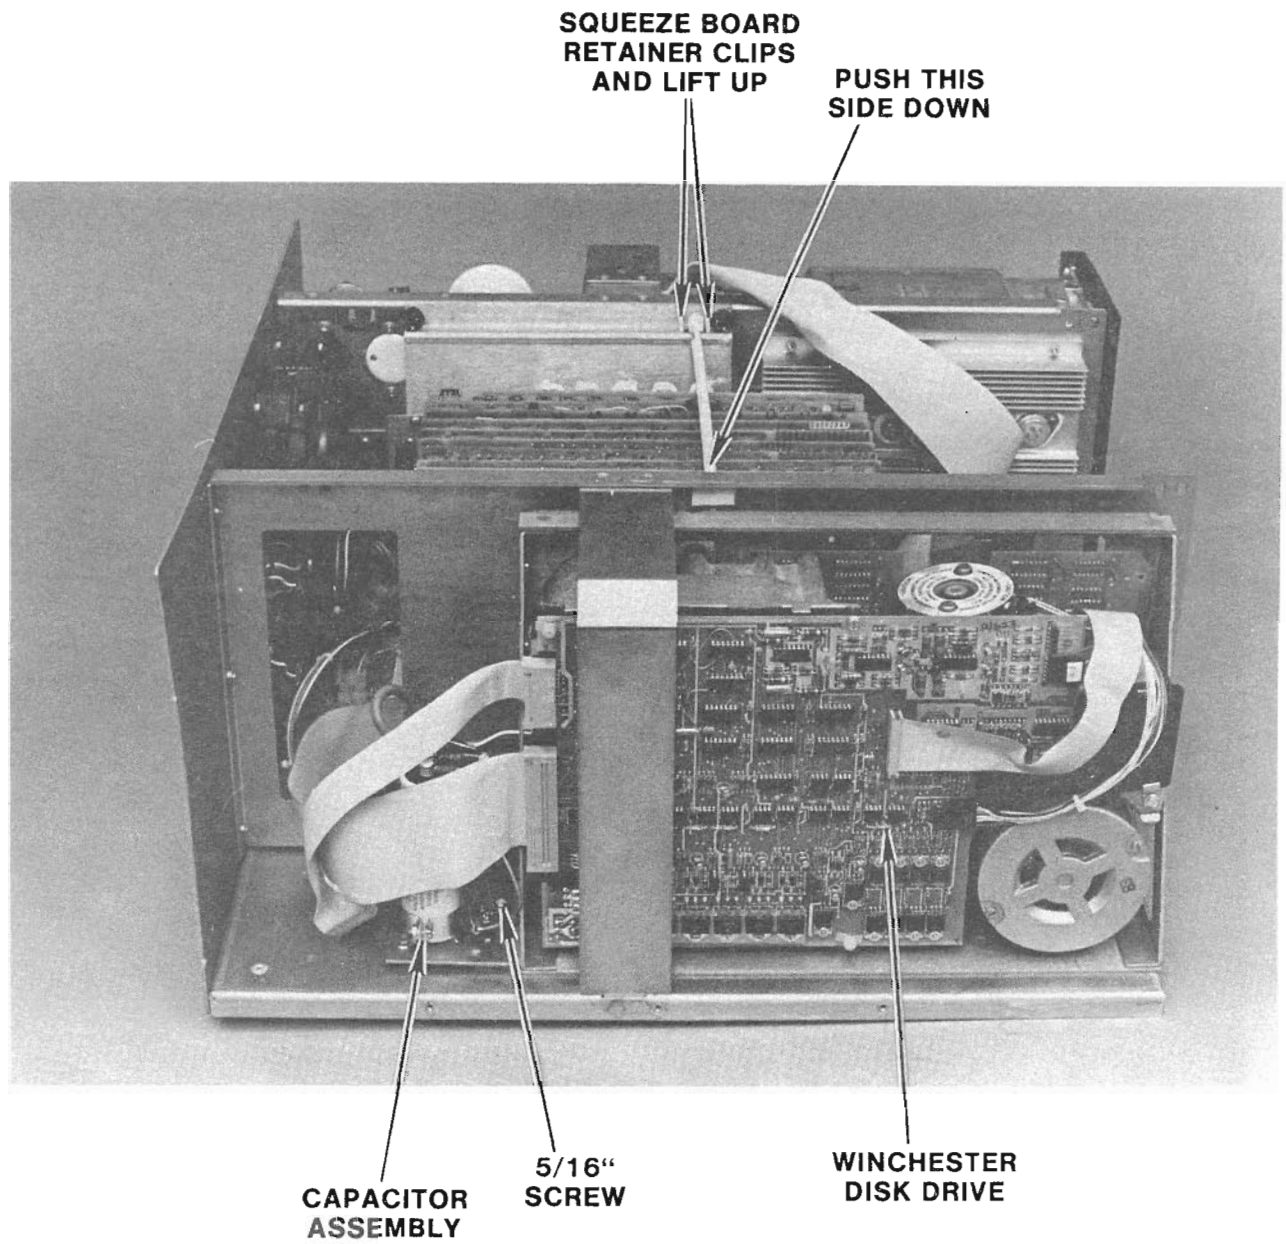

FIGURE 11-4 CIRCUIT BOARD RETAINER REMOVAL; WINCHESTER DISK DRIVE REMOVAL
1. Squeeze the two clips that fasten the retainer to the regulator board (ref: FIGURE 11-4), and lift the retainer out of the slot in the regulator board.
2. Using a 5/16" nut driver, remove the hex bolt that secures the rear of the drive and the capacitor assembly to the chassis (ref: FIGURE 11-4).